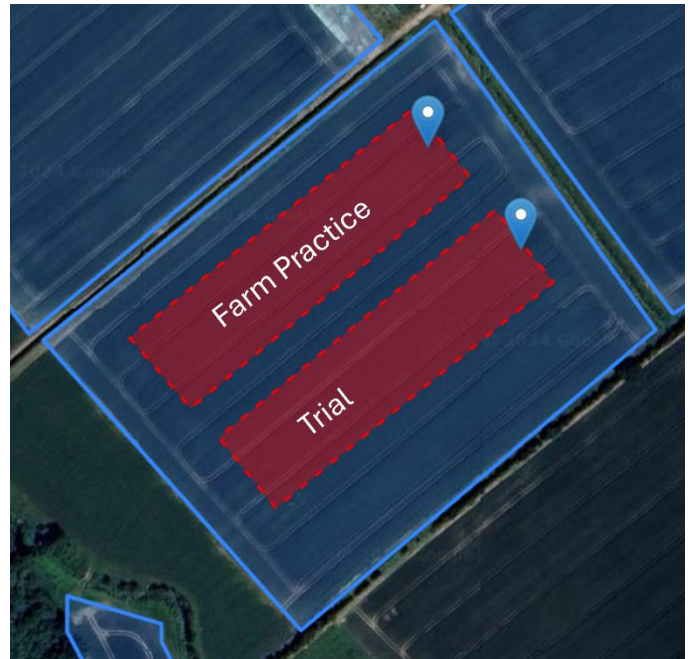

Figure 1 Example trial layout with one red zone being the trial area, and the other being farm practice.
2. We require at least a tramline for each zone but would preferably have more so that we ensure any variation from the field is reduced. Figure 1 demonstrates an example trial layout. A tramline was left in between as this field was applied with solid fertiliser.